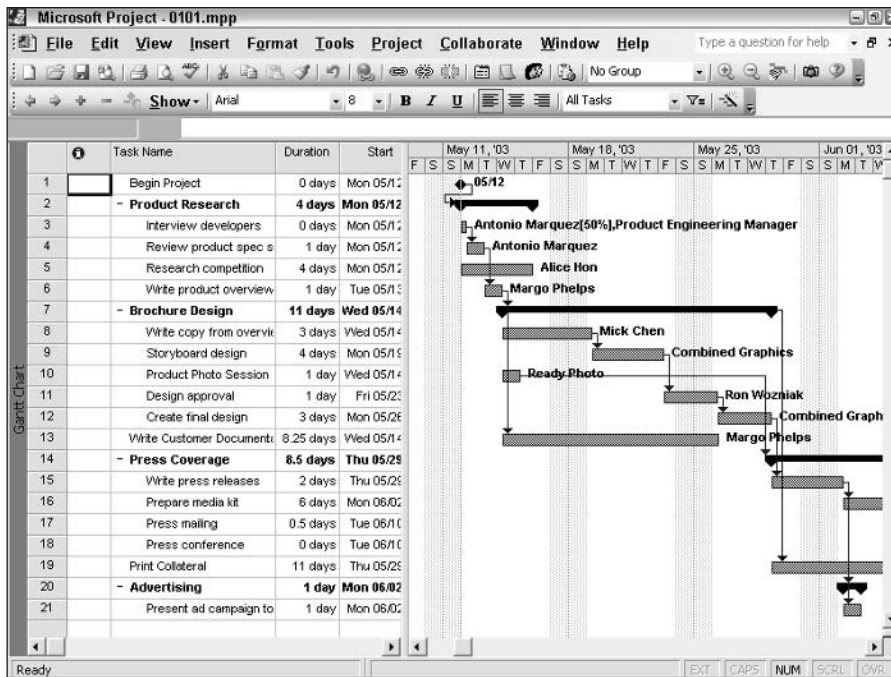

Figure 1-1: Tasks with slack displayed alongside those on the critical path.
- ♦ The critical path changes as the project progresses. Remember that a *critical path* is a means of identifying tasks that have no leeway in their timing to ensure that they don't run late and affect your overall schedule. Knowing where your critical path tasks are at any point during the project is crucial to staying on track. Figures 1-1 and 1-2 show the same schedule—first with all tasks displayed and then filtered to show only the tasks that are on the critical path.